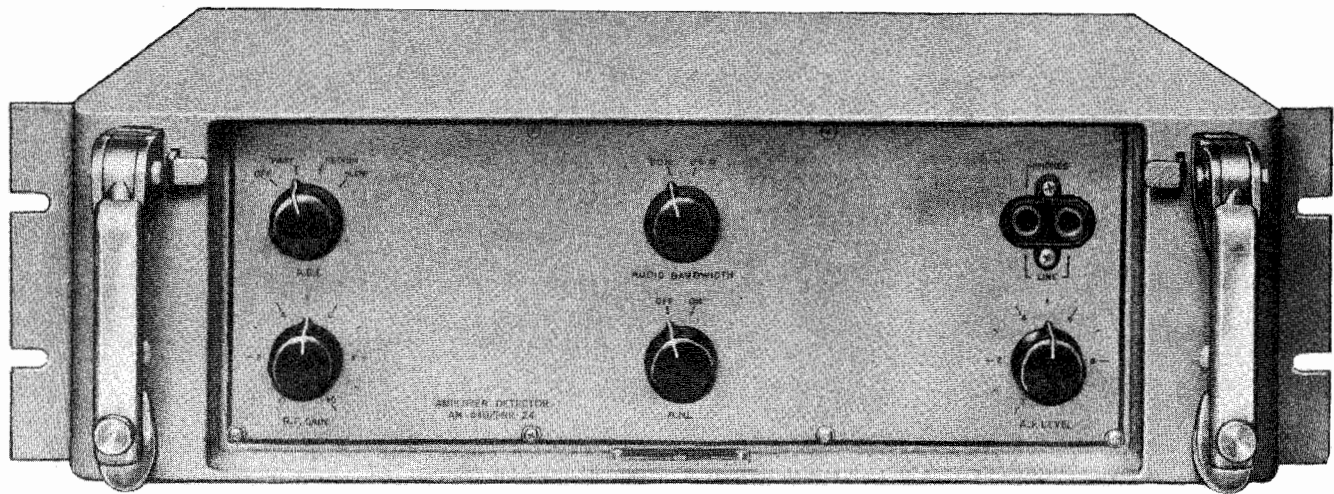

Figure 1-15. Amplifier-Detector AM-440/FRR-24
(8) AMPLIFIER-DETECTOR AM-440/FRR-24. (See Figures 1-15 and 1-16).—This is a five-tube single detector unit designed to amplify and detect the 50-kc. I.F. signal, provide a keyed D.C. output, an audio output and also provide a source of A.G.C. voltage.